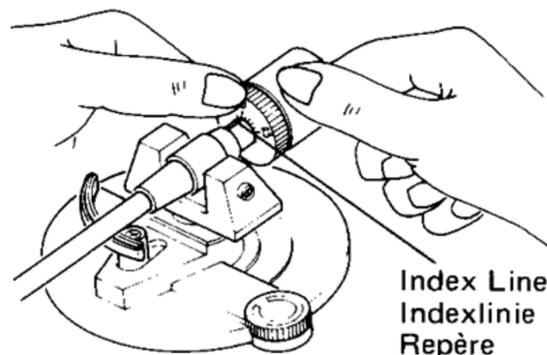

Fig. 6 Abb. 6
4. Hold the counterweight at the adjusted position and turn the tracking force dial until the "0" mark is aligned with the index line on the tonearm weight shaft. (Fig. 6)